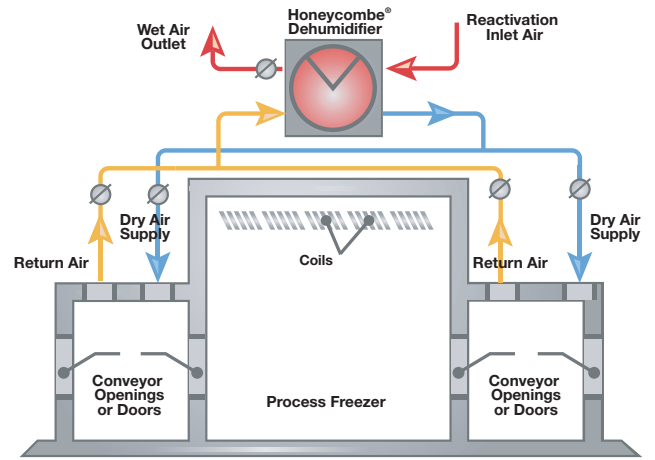

Figure 2. Air System with Vestibule
**Vestibule System** (Figure 2) – When space allows, the vestibule system may be all that is required to minimize moisture in the process freezer. It has the advantages of low cost and simplicity in installation. Figure 2 explains the system graphically. Air is taken from the vestibule, processed through the dehumidifier and returned to the vestibule area just in front of the freezer conveyor entrance. This ensures that any air that infiltrates into the freezer is dry air with a moisture level below the temperature of the evaporators. The dehumidifier can be switched on by a condensation controller, set to maintain the air at a specific dew point.